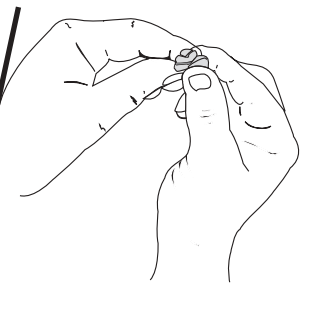

Fig. 38
5. Squeeze the filter to spread and remove excess oil (Fig. 38).